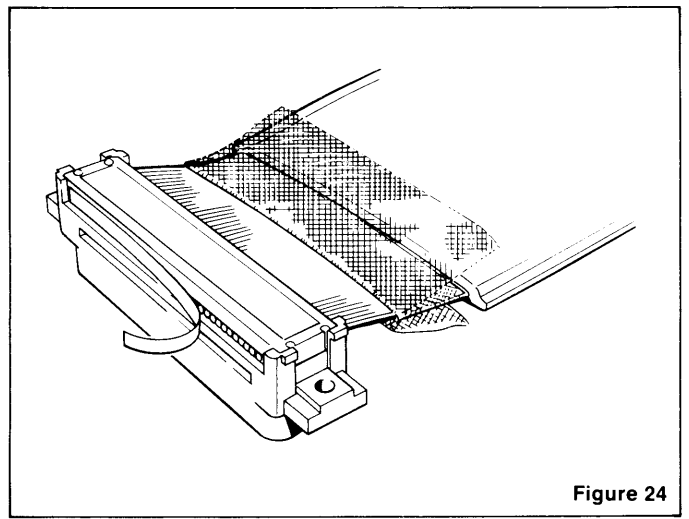

Figure 24
8. Adhere a strip of $\frac{1}{4}$ " x $1\frac{3}{8}$ " (6 mm x 35 mm) 3M #56 electrical tape over the exposed conductor ends (Figure 24).